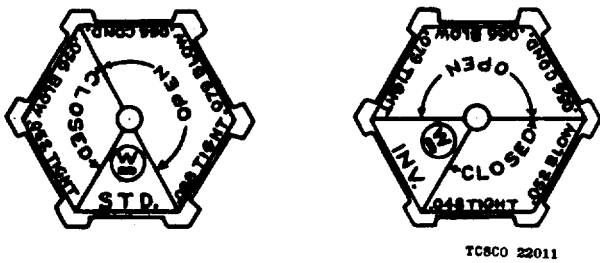
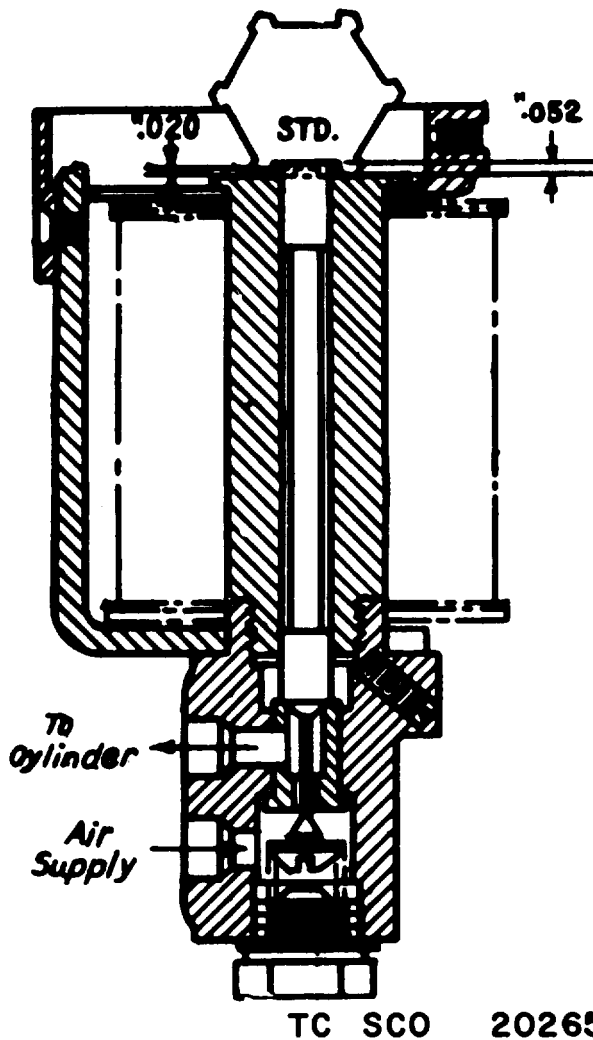

Figure 24. Valve setting gage.
Figure 25. Gage in proper place for checking and adjusting standard valves.
simple gage, figure 24, is employed. This gage is used for both standard and inverted valve by turning it over, depending on type of valve to be checked.
- (a) Gage, figure 24, is used to check and adjust the final gap and length of new upper valve stems. Remove the magnet cap and insert the gage as shown on figure 25. Flat-file the top of the upper stem until the 0.056-inch gage will admit air to the cylinder with a slight leak out the exhaust and the 0.052-inch gage will close the exhaust valve tight. The final air gap is then between the two, or approximately 0.054 inch. New stems have excess length and should be ground to a tight seat before adjusting the gap. Directions for grinding are included in h below.
- (2) *Lower valve stem.* The same gage, figure 24, is used, after the upper valve stem has been adjusted, to adjust the travel and the length of the lower valve stem. Use the 0.088-inch gage. This will probably cause the valve to unseat and blow due to excess length of the lower stem. The upper end of lower stem should then be flat-filed until the 0.088-inch gage will not touch but the 0.070-inch gage will unseat the lower stem. The total gap is then approximately 0.086 inch and the travel is 0.086 inch minus 0.054 inch or 0.032 inch. In service, it is permissible to allow the lower stem to wear as long as the condemning gage 0.066 inch makes the lower valve blow when the upper stem is new. If it does not, the travel has then reached 0.012 inch and the lower
- (1) Gage, figure 24, is used to check and adjust the final gap and the length of new pushrods. Remove the magnet cap and insert the gage as shown on figure 26. Flat-file the top of the pushrod until the 0.052-inch gage discharges the cylinder with a slight leak out the exhaust and the 0.049-inch gage will discharge the cylinder with the inlet valve tight. The final air gap is then between the two, or approximately 0.050 inch. New pushrods have excess length and valves should be ground to a tight seat before adjusting the